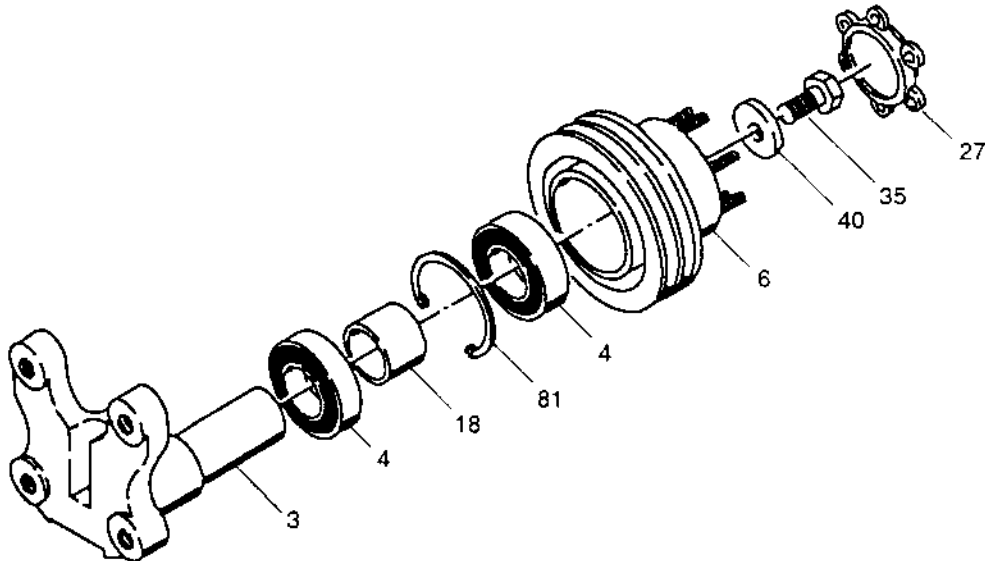

FIGURE 3
- A. Remove Fan Spacer (Item 27) (See Fig. 3).
- B. Remove Cap Screw (Item 35) and Retainer Cap (Item 40) (See Fig. 3).
- C. Slide Sheave (Item 6) off Journal Bracket (Item 3) (See Fig. 3).
- E. Remove Spacer (Item 18) (See Fig. 3).
- F. Remove Retaining Ring (Item 18) (See Fig. 3).